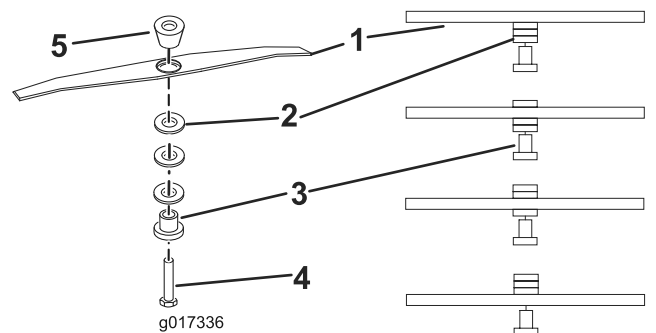

Figure 13
5. Reposition the spacers to the desired height, then reinstall the cutting unit as shown in Figure 13.